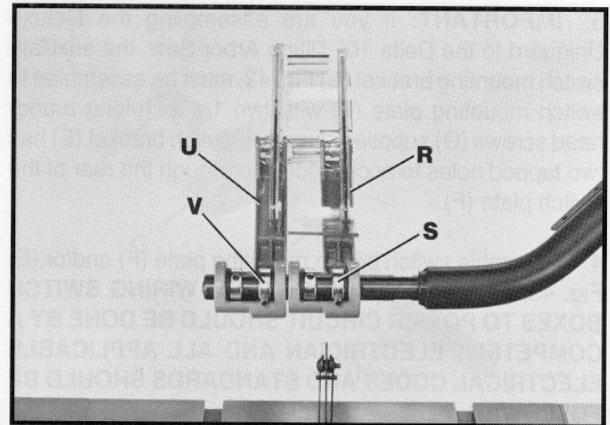

Fig. 39
27. Recheck and adjust set screws in collars (S) and (V) Fig. 39, if necessary to prevent basket arms (U) and (R) from vibrating toward the saw blade when the arms are in the up position.